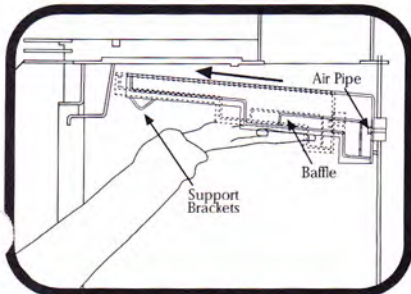
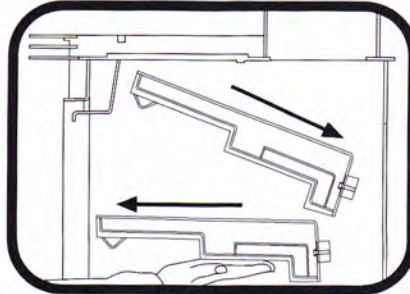

Fig. 8
Fig. 9
- 5) Once the bolts are loose, slide the baffle down as indicated in figure 8. Carefully, angle the baffle on one side to make sure it doesn't accidentally fall, as this may result in serious injury (fig. 9)